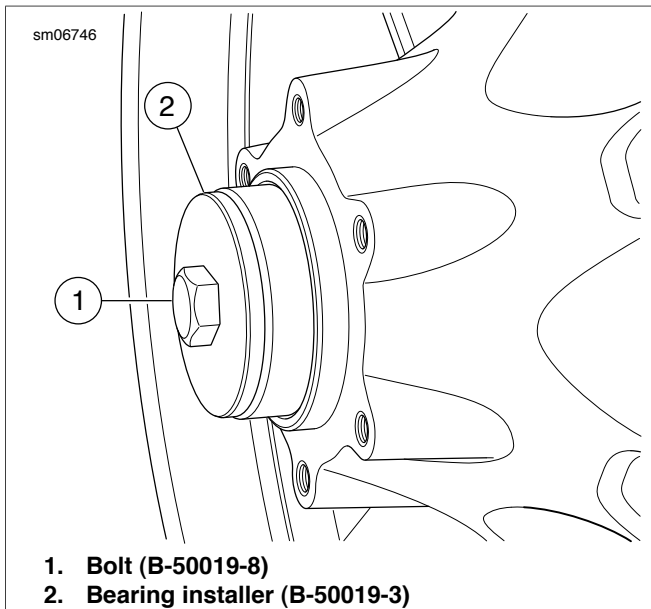

Figure 1. Pressing in the Rotor Side Bearing
1. See Figure 1. Assemble the bolt (Part No. B-50019-8) (1) from the Buell Bearing Installer Kit (B-50019) and the smaller bearing installer (Part No. B-50019-3) (2).